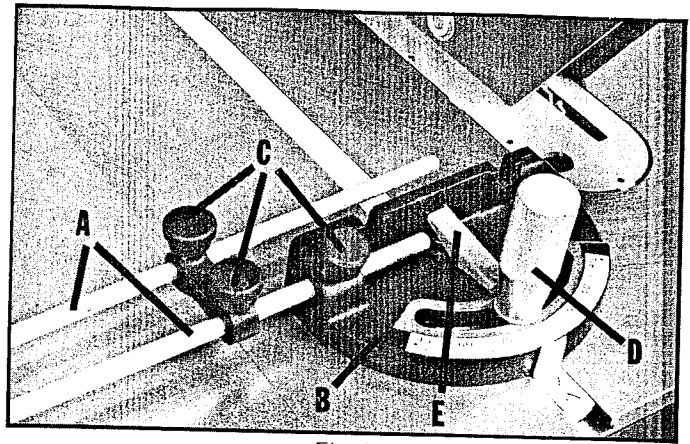

Fig. 52
1. The miter gage body (B) Fig. 52 can be adjusted up to 45° right and left by loosening lock knob (D) and depressing lever (E).